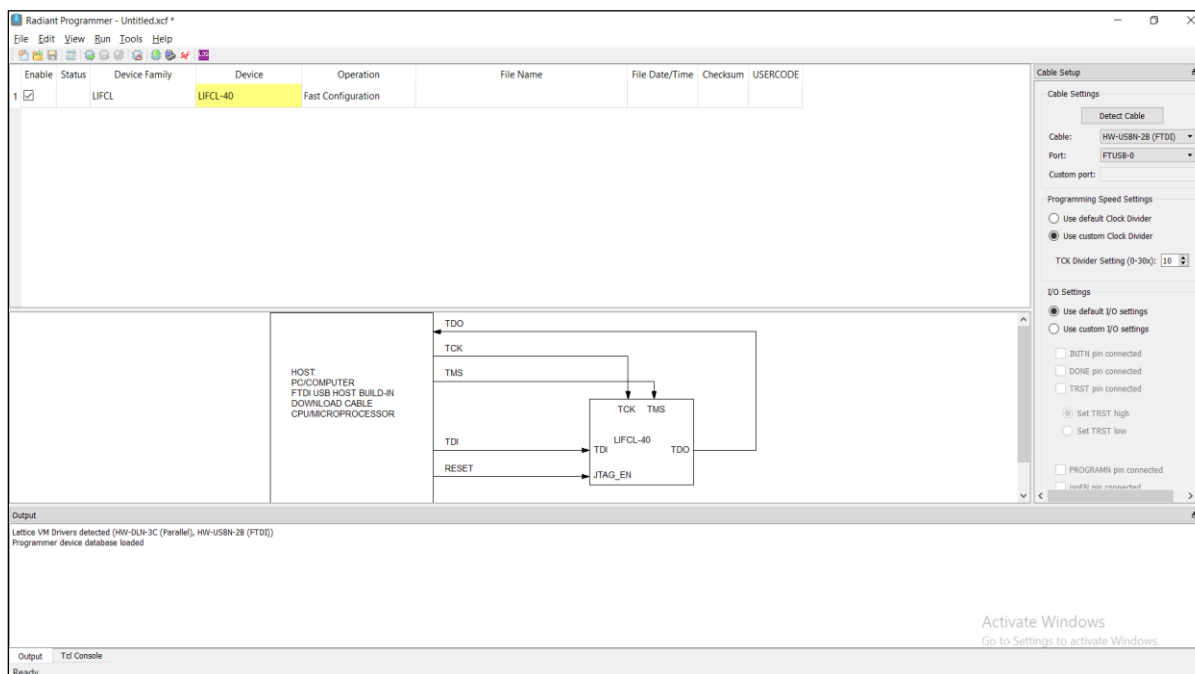

Figure 5.8. Radiant Programmer Window
4. The main interface opens as shown in Figure 5.8.